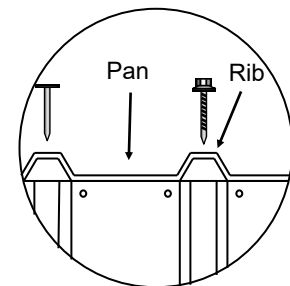

fig.2
- Using 4 x 50mm Clouts, pre-drill and nail the Roof Sheets to the Top Plates at each corner, ensuring ribs on the Roof Sheets line up with ribs on the Wall Sheets (**fig.2**).